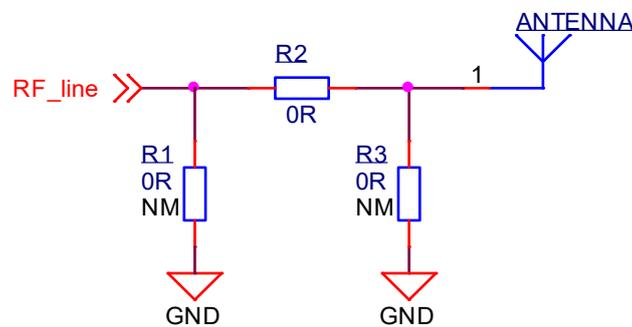

Figure 8.5: Recommended Antenna Matching Pi Network
Finding appropriate values for the components should be considered an iterative task. It is recommended to add a pi network for matching as shown in Figure 8.5. The following matching strategy is proposed:
3. Start out with no components on the antenna network shown in Figure 8.5:
5. Mount a $0\ \Omega$ resistor at R2 in Figure 8.5